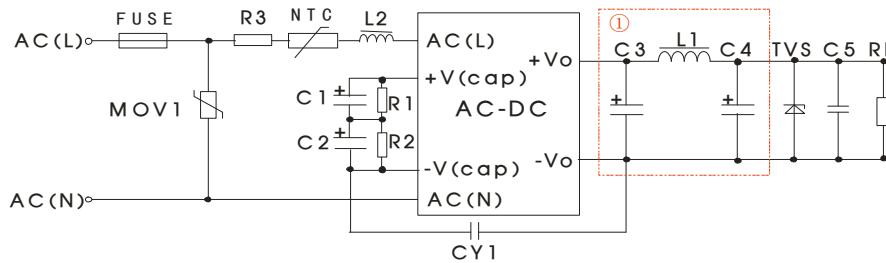

Fig. 1: Typical circuit diagram
RE	CISPR32/EN55032 FCC part 15 CLASS A (See Fig. 1 for typical application circuit)
EFT	IEC/EN 61000-4-4 ±2KV (See Fig. 1 for typical application circuit) perf. Criteria B
Surge	IEC/EN 61000-4-5 line to line ±1KV (See Fig. 1 for typical application circuit) perf. Criteria B
2. It is necessary to add pi-type filter circuit to the output, such as the typical application of Figure 1.